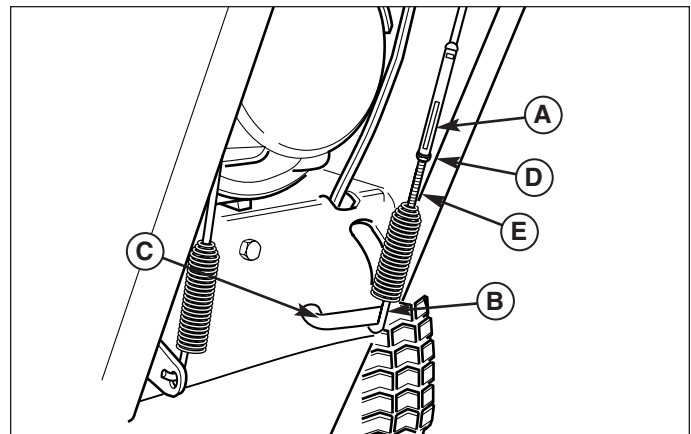

Figure 20. Auger Drive Adjustment (Tube Handle Models)
1. With the drive lever released, the hook (B, Figure 20) should barely touch the lever (C) without raising it. There can be a maximum 1/32" clearance as shown.
2. To adjust, loosen nut (D, Figure 20) by holding the